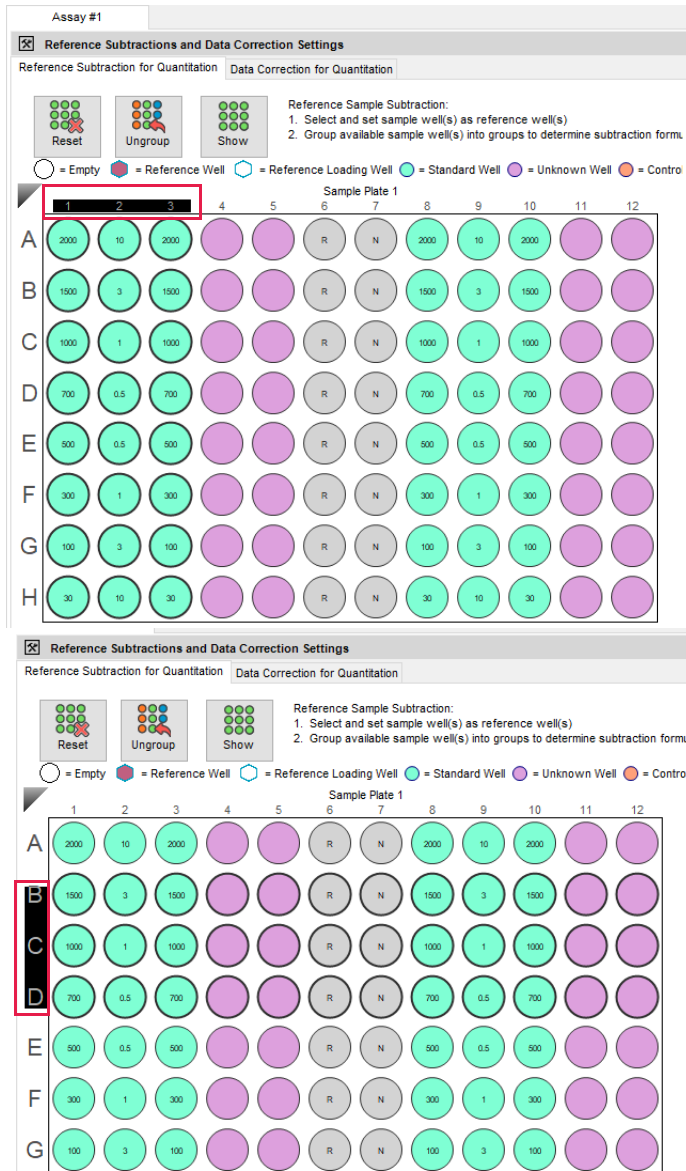

Figure 9-17: Selecting Multiple, Sequential Rows or Columns
- To view data for multiple sequential rows or columns, click the letter of the first row or the number of the first column you want to view in the biosensor tray or sample plate, then hold the mouse and drag it across all the other row/columns you want to view (Figure 9-17).